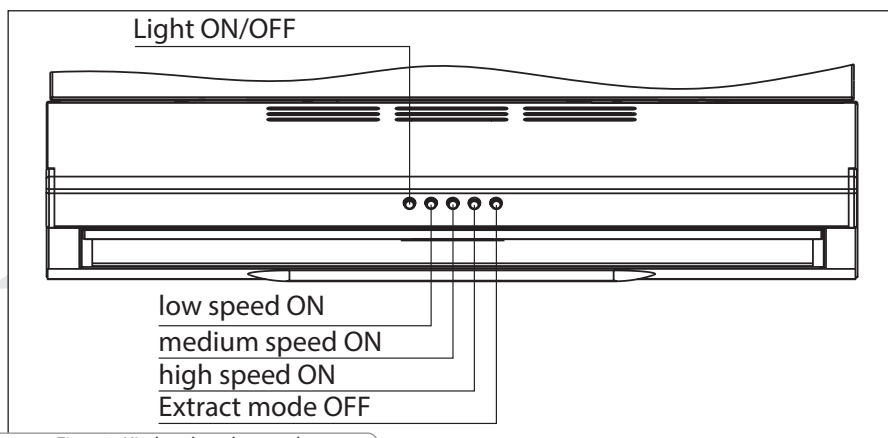

Fig. 19. Kitchen hood control
- Press the respective speed button (low, medium or high speed, fig. 19) to turn the kitchen hood on. The kitchen hood has priority over the control panel, i.e. the control panel is not active when the kitchen hood is on.
- Press the respective button to turn the kitchen hood off, see fig. 19. After turning the kitchen hood off the unit reverts to the operation mode set from the control panel.